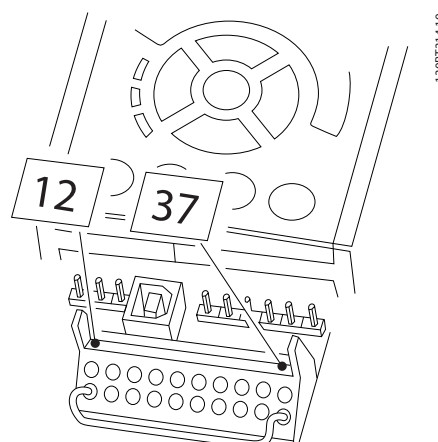

Figure 2.1 Bridge jumper between terminal 37 and 24 V DC
1. The bridge (jumper) between Terminal 37 and 24 V DC must be removed. Cutting or breaking the jumper is not sufficient. Remove it entirely to avoid short-circuiting. See jumper in *Figure 2.1*.